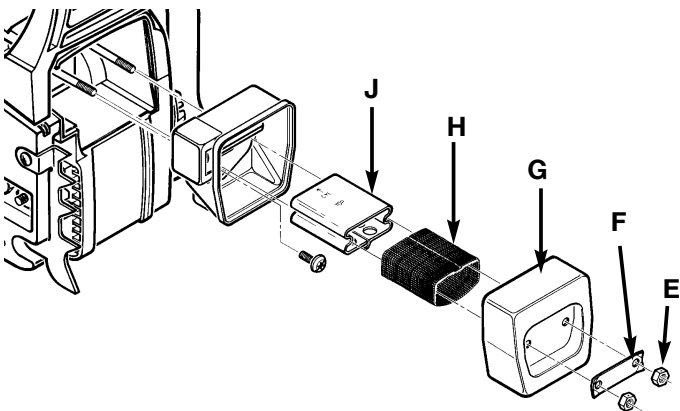

Fig. 34
1. Remove 2 muffler retaining nuts (E), Lock plate (F) and muffler cover (G) (Fig. 34).
2. Remove spark arrester screen (H) from the metal baffle (J). Replace screen with new one.